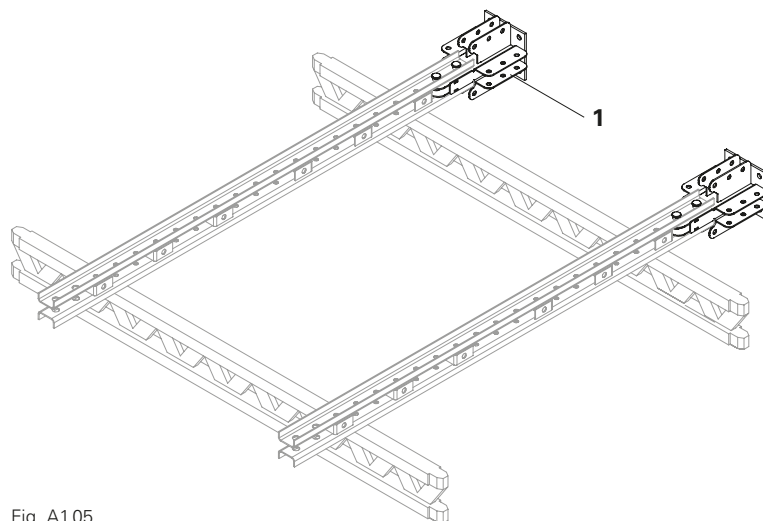

Fig. A1.05
2. Insert Prop Bases ATS (1) into the Steel Walers 262 (25). (Fig. A1.05)